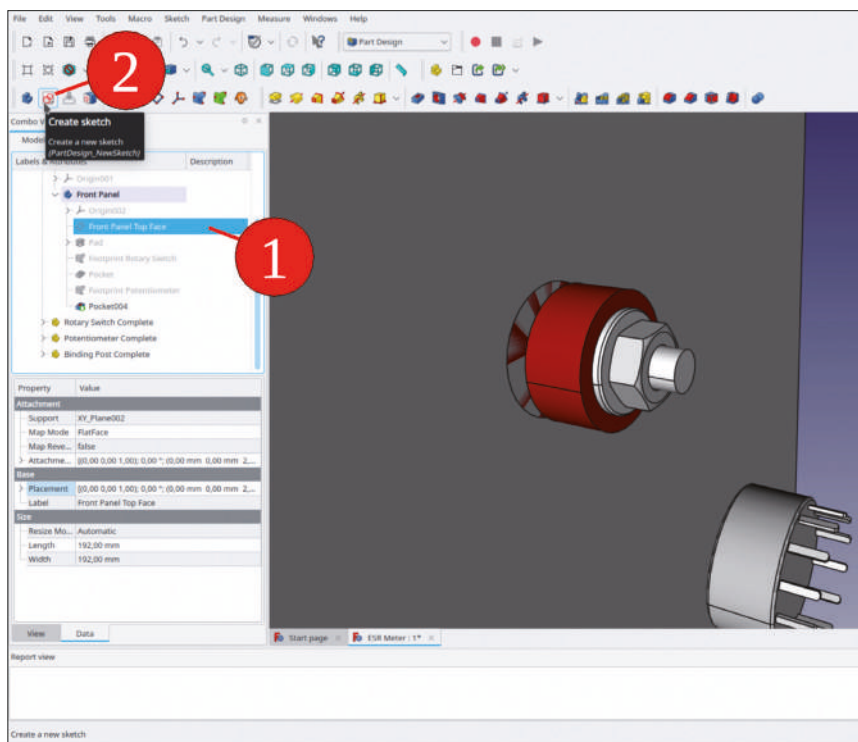

Figure 7-23
6. Double-click the body called 'Front Panel' (expand the 'Front Panel Complete' Std-Part-Container to locate it). Mark the 'Front Panel Top Face' datum plane and start the sketcher (Figure 7-23).